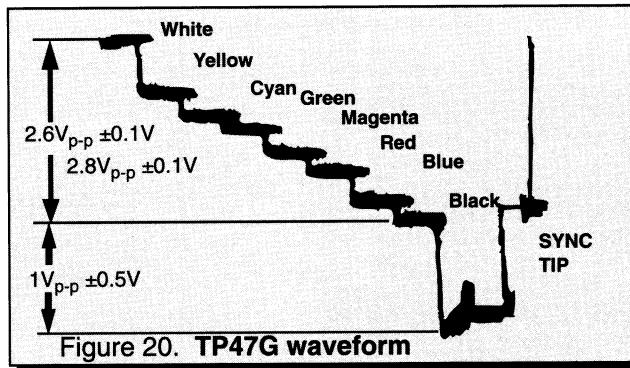

Figure 20. TP47G waveform
1. In the Serviceman Mode for electronic adjustments, select DAC Sub-Contrast Adjustment (B3) and adjust for  $2.6V_{p-p} \pm 0.1V$  for 13" models and  $2.8V_{p-p} \pm 0.1V$  for 27" models from white level to black level on video waveform (see video waveforms detail, Fig. 20).
2. In the Serviceman Mode, select DAC Sub-Brightness Adjustment (B2) and adjust for  $1.0 - 1.5V_{p-p}$  between blanking and 7.5 IRE level. (See video waveforms detail, Fig. 20).